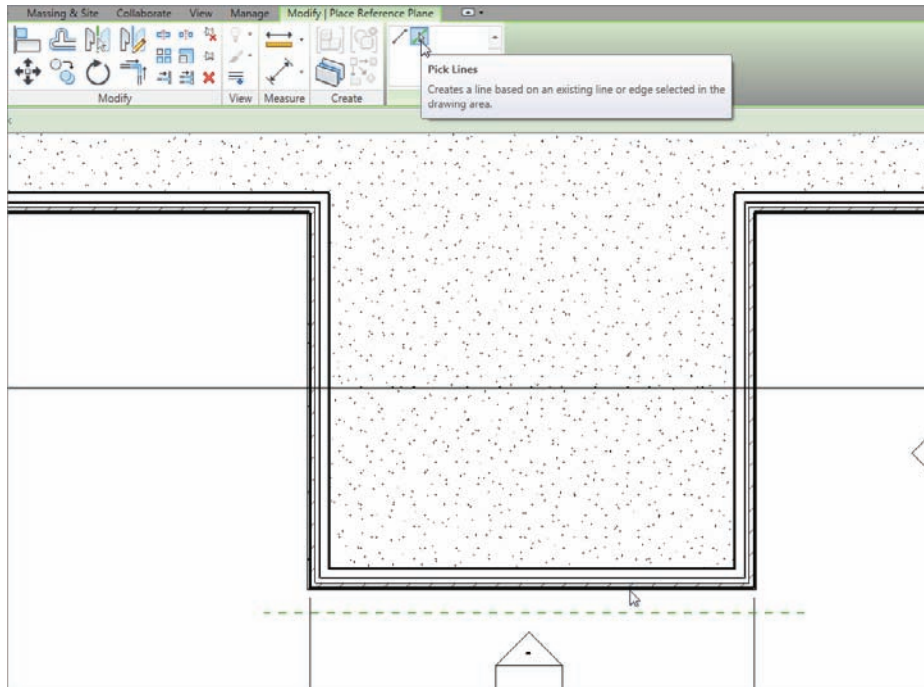

FIGURE 7.48 Adding a reference plane
16. Pick the southernmost wall and offset the reference plane away from the building (see Figure 7.48).